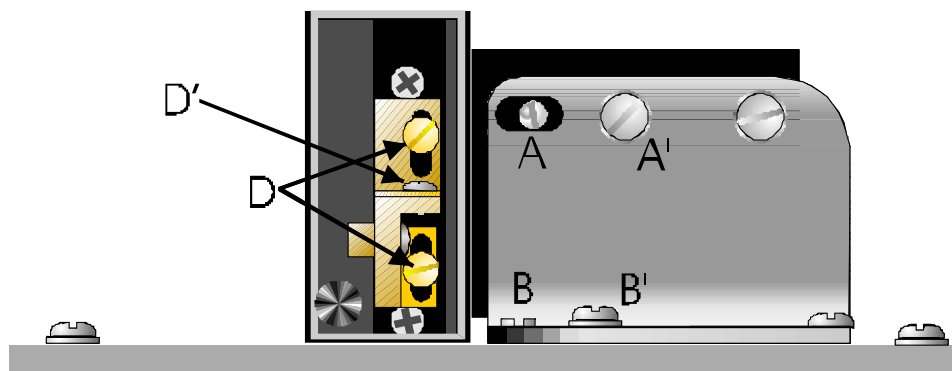

Figure 15-2. Filament alignment.
First, remove the chamber that encloses the heating filament. This is done by removing the black thumbscrew at the lower left corner of the Plexiglas cover plate and then pulling the chamber straight off. The old heating filament can then be easily removed by loosening the two clamp screws (**D' in Figure 15-2, only one shown**) that hold it in place. Slide out the old filament, slip in a new one and center it over the air jet. Then re-tighten the two clamp screws.
2. Locate the aluminum angle plate to the right of the filament assembly and behind the right carrier bar. Two chrome eccentric screws (**A and B in Figure 15-2**) in slots are mounted on this bracket, one located on the vertical face of the bracket and one on the horizontal face. Identify the flathead locking screws to the right of each chrome screw.